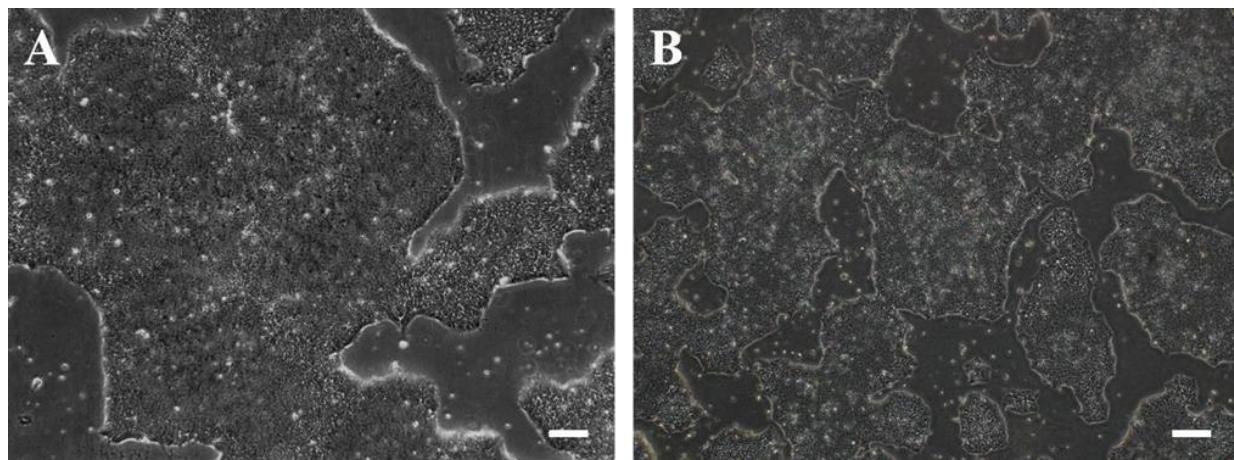

Figure 1: hiPSC clones at approximately 85% confluence.
- 1) When cell confluence reaches approximately 85% (Figure 1), normally 4 days after seeding. Even if the clones are small and confluence is insufficient, continuous culture should not exceed 5 days.
The passaging ratio can range from 1:5 to 1:20 depending on cell growth status and experimental requirements. If cells are healthy, with 85% confluence and uniform clone size (Figure 1), a 1:10 ratio is recommended. Reduce the ratio if cell density is low; increase the ratio if density is high.
1. When the cell confluence reaches about 85% (Figures 1), cells can be harvested for cryopreservation. Typically, 2×10^6 – 4×10^6 viable cells per well of a 6-well plate can be collected and frozen in one cryovial.